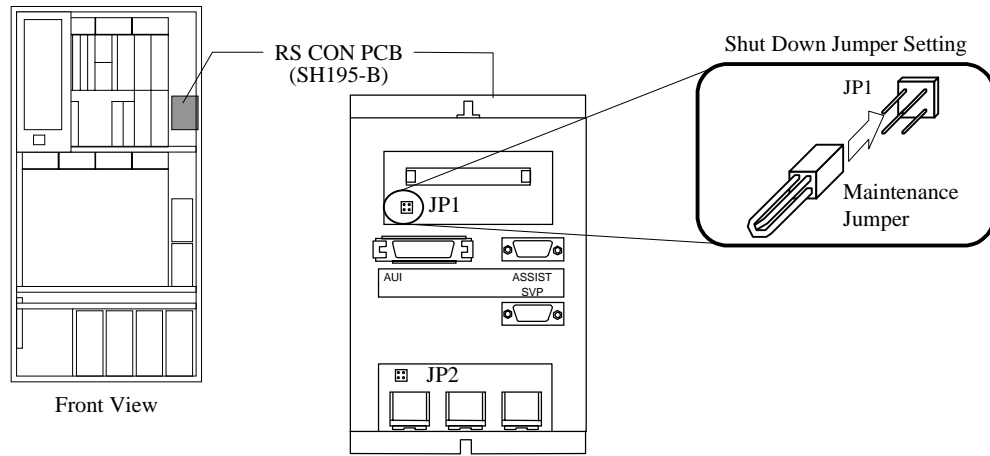

Fig. 3.15-2 Jumper settings of RS CON PCB
- Remove the maintenance jumper of the JP1 on the RS CON PCB. (See Fig. 3.15-2.)